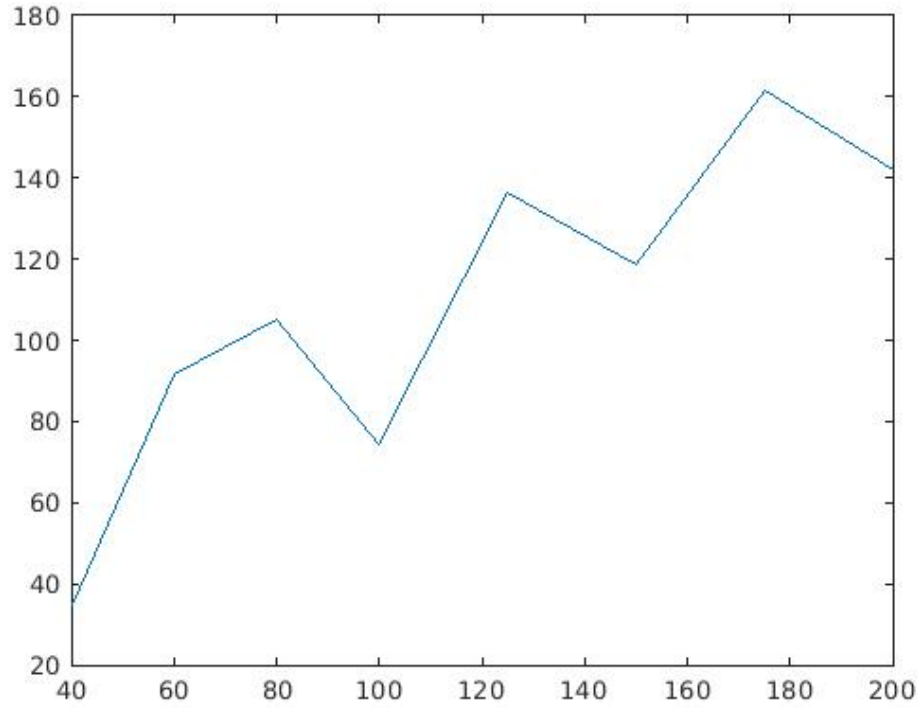
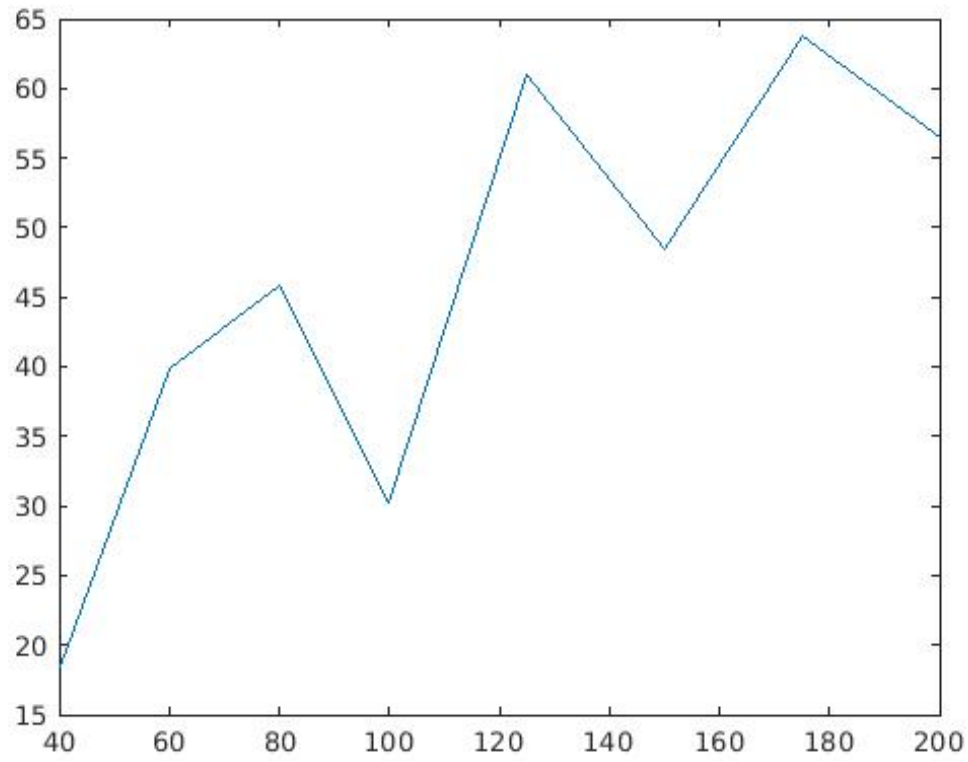

Figure 4: L2 norm of  $x_w$  for the system
Figure 5: L2 norm of  $\theta_b$  for the system
6.5.2: The L2 norm of the  $x_w$  and  $\theta_b$  for different frequencies is shown below (Figure 4 and Figure 5 respectively). As we can see from the figures, for a change in  $\theta_b$  we have an act of  $x_w$ .